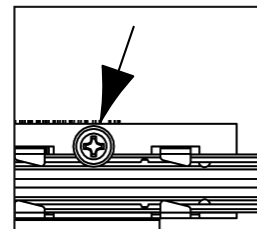

Figure 9
Step 2. After frame is set into place, tighten hanger bars using the locking screws mounted onto the frame, (indicated by arrow in Fig. 9).